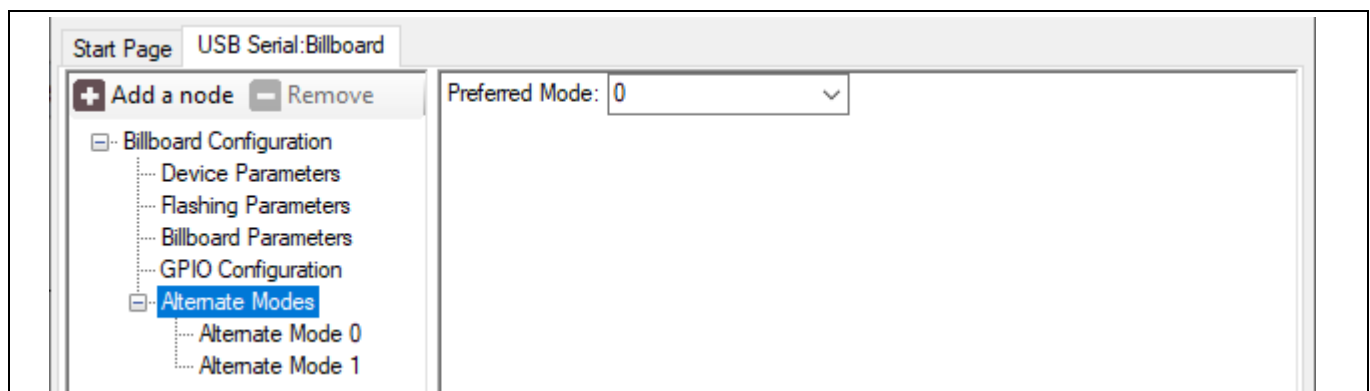

Figure 67 Alternate modes in Billboard
- **Preferred mode:** Preferred alternate mode. Select the mode from drop-down list as shown in Figure 67 (only one can be preferred mode).